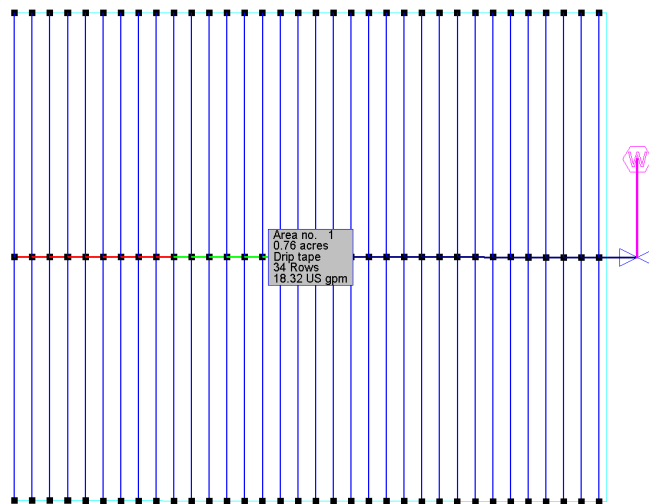

Figure 4-36
22. Now select *Modify/Select Object* and click on the label. Select *Modify/Move* and move the label to below the valve. See Figure 4-36.